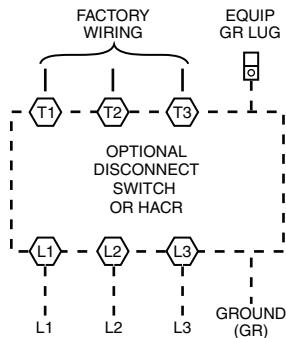

Fig. 48 — Power Wiring Connections
Size wire based on MCA (Minimum Circuit Amps) on the unit informative plate. See Fig. 48 for power wiring connections to the unit power terminal blocks and equipment ground. Maximum wire size is 2/0 AWG per pole.
3. Install power lines to terminal connections as shown in Fig. 48.